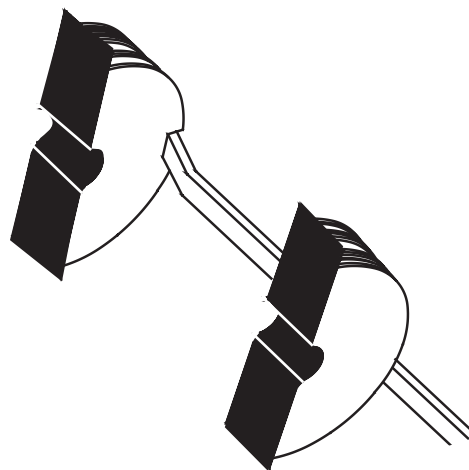

FIGURE 12 - LOCK-TAPE STRIP APPLIED TO END PLATE HALF
6.10 When "C" cement becomes tacky, remove protective backing from LOCK-TAPE strips and without stretching it apply it, white side down, to each end plate half. Follow the curve of the hole cut for the cable. Trim end of strips allowing 1/2" (38 mm) of overhang. (Figure 12)